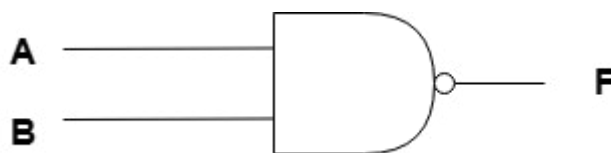

Figure 4.4: Two-input NAND Gate
- d. **NAND Gate:** The NOT Gate can be combined with the AND Gate to produce a NAND Gate (NOT-AND). It implies an AND gate with a complemented or inverted output. It can also be represented diagrammatically, as shown in Figure 4.4. The circular shape at the output represents the inversion (change to opposite).
The NAND gate represented in **Figure 4.4** has two inputs (A and B) and one output (F). Below is a simple table for this two-input NAND gate.